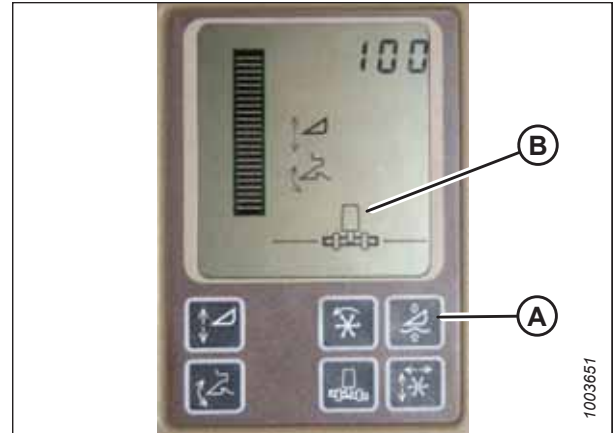

Figure 3.426: John Deere Combine Display
Do **NOT** use active header float function (A) in combination with the MacDon auto header height control (AHHC)—the two systems will counteract one another. Header symbol (B) on the display should **NOT** have a wavy line under it and should appear exactly as shown on the Active Header Control Display in Figure 3.426, page 251.